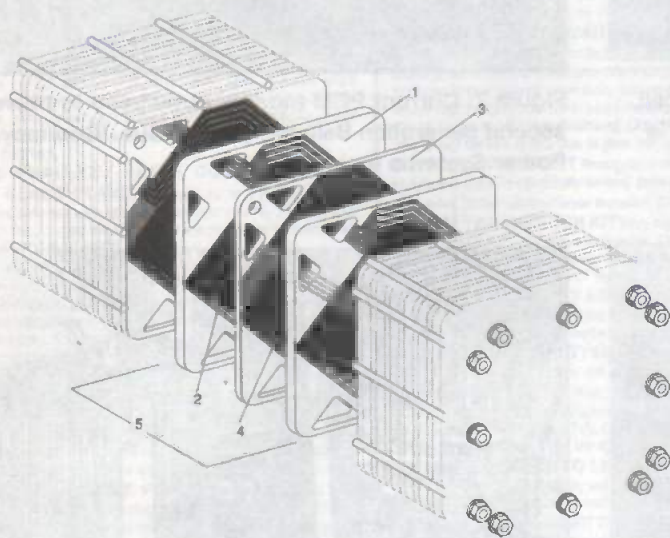

Figure 3: General construction of Ballard fuel cell unit.
Figure 3 shows the general construction of a fuel cell unit. The fuel cell module is very much a sandwich with the membrane electrode assembly (3) held between the flow field plate (1). Thus air (4) and hydrogen (2) is distributed on opposite sides of the flow field plate. The air flow channels (4) guide flow over the active membrane and remove water produced by the combination of hydrogen and oxygen.